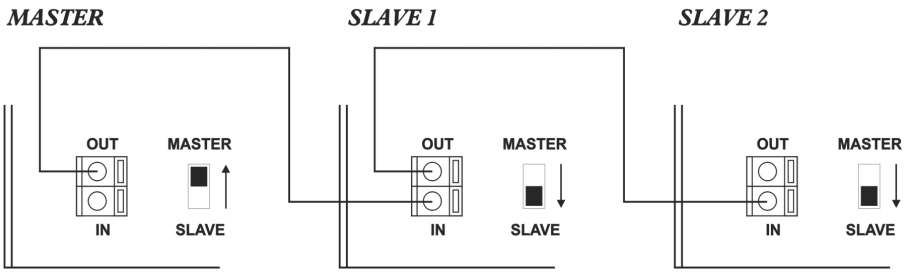

Figure 5
- Slide the Master/Slave Switch, Figure 5, on all the slave units from MASTER to SLAVE position.
- Connect the In/Out terminals for Master/Slave operation as shown in Figure 5.